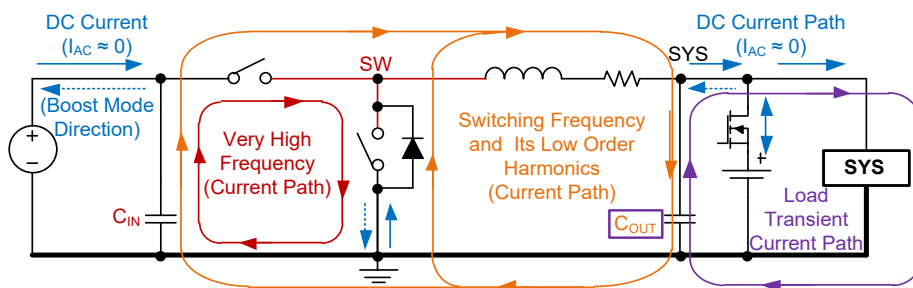

Figure 21. The Paths and Loops Carrying High Frequency, DC Currents and Very High Frequency (for Layout Design Consideration)
The switching node (SW) creates very high frequency noises, which are several times higher than f_{SW} (1.5MHz) due to sharp rise and fall times of the voltage and current in the switches. To reduce the ringing issues and noise generation, it is important to design a proper layout for minimizing the current path impedance and loop area. A graphical guideline for the current loops and their frequency content is provided in Figure 21. The following considerations can help to make a better layout.